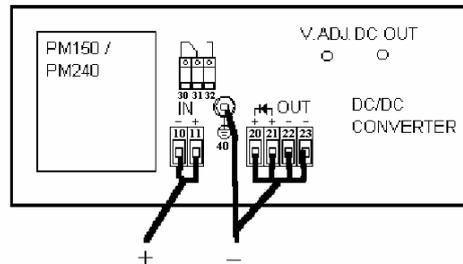

Figure 7. Input to output and input to case isolation voltage test.
4. Connect your isolation tester between input and case. See *Figure 7*. Raise the voltage of the isolation tester from 0 to 4000V d.c. Check that the leakage current does not exceed 5 μ A. The voltage should not be applied for more than a few seconds or the Y-capacitors might be damaged.
2. Connect the output terminals of the converter to case. See *Figure 7*.
4. Connect your isolation tester between input and case. See *Figure 7*. Raise the voltage of the isolation tester from 0 to 2500V a.c. The voltage should not be applied for more than one (1) minute or the Y-capacitors might be damaged.